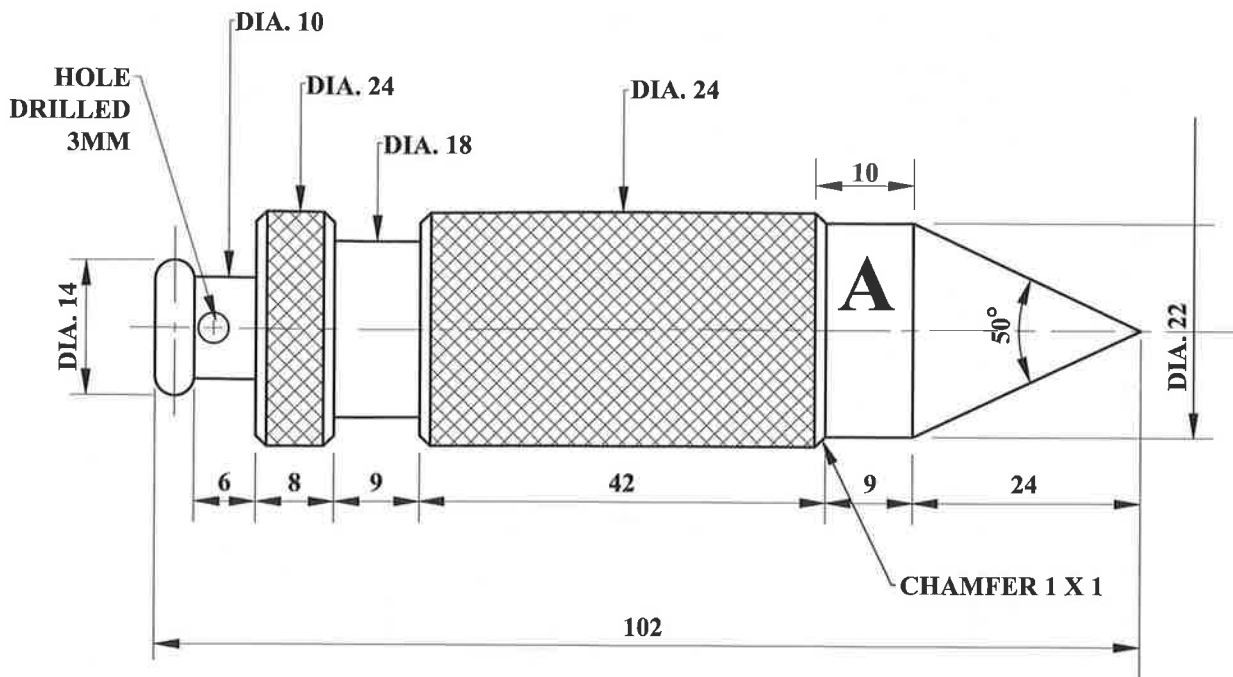

Figure 3. Plumb bob
3. Figure 3 shows a plumb bob that is to be produced on a lathe from a piece of mild steel stock 30 mm diameter by 140 mm long.